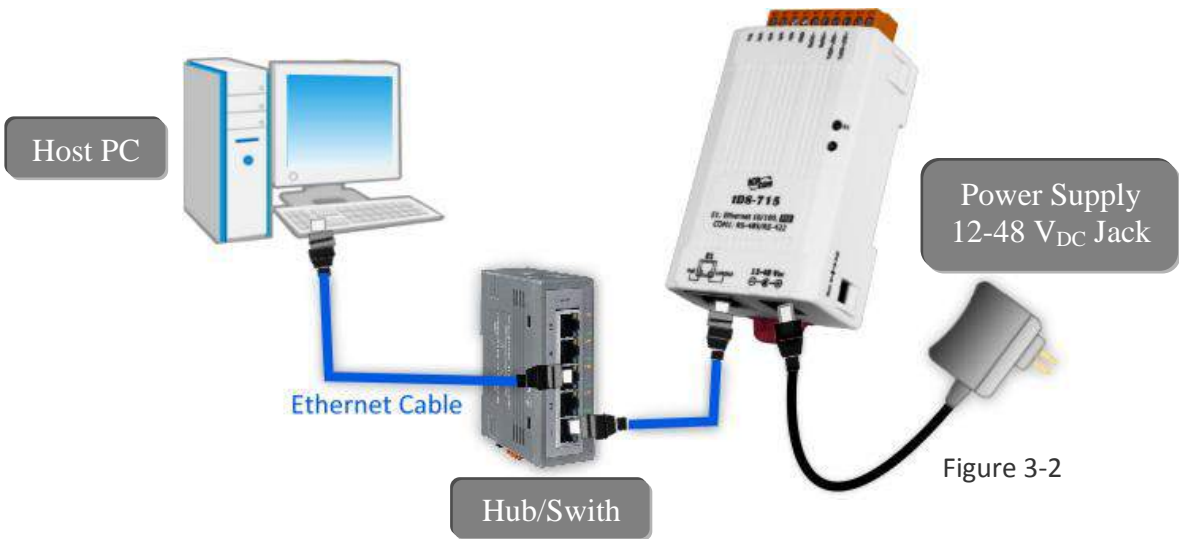

Figure 3-2
4. Connect both the tDS-700 and the Host computer to the same sub-network or the same Ethernet Switch, and then power on the tDS-700. Refer to **Figures 3-2 and 3-3** for illustrations of how to do this.